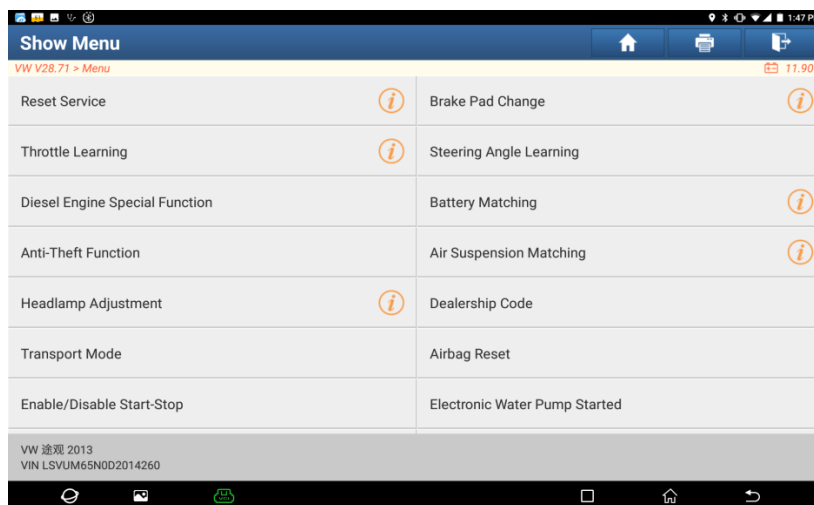

Figure 3
3.2.2 Select [Anti-Theft Function], as shown in Figure 3 and 4.